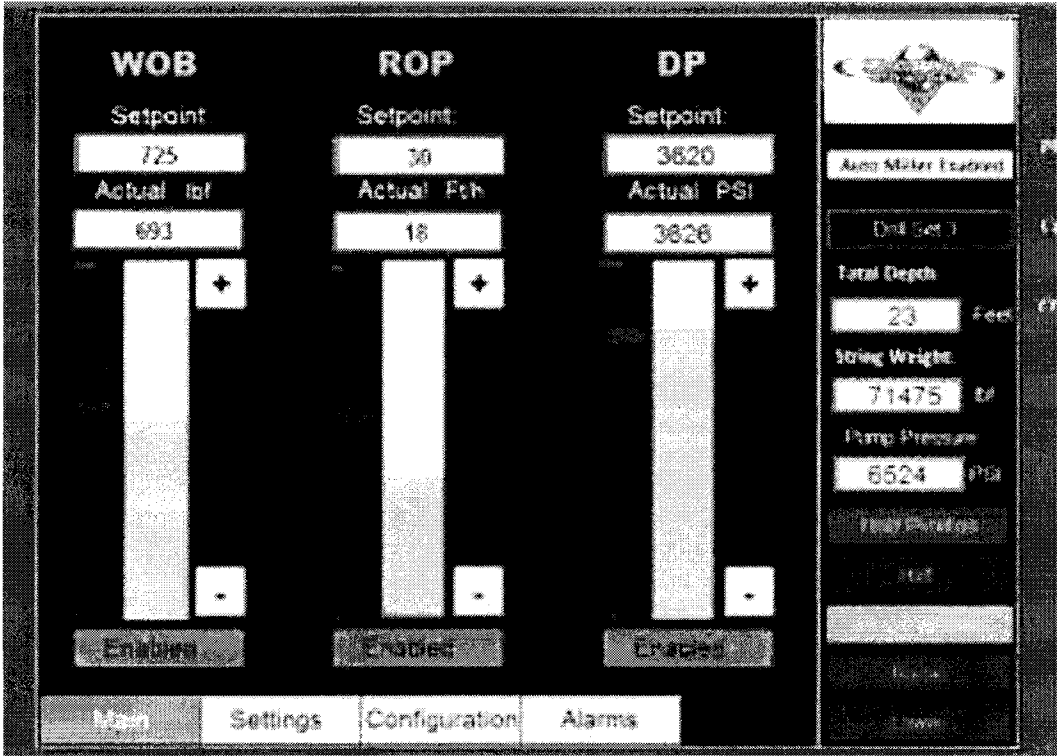

Figure 21
- the detailed description makes reference to Fig. 21 only in par. [0034], and without any reference to the elements in the figure; and,